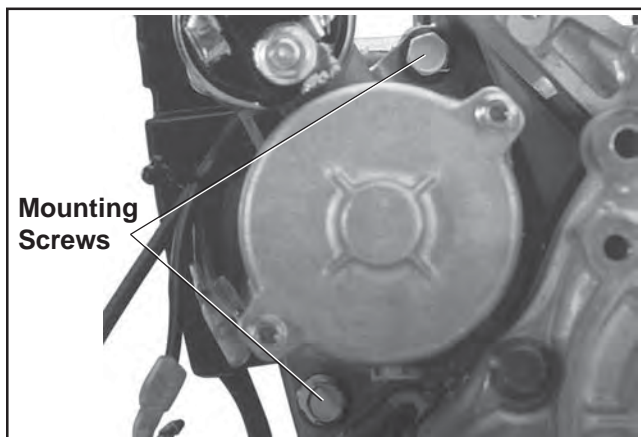

Figure 11-95. Solenoid Shift Starter Mounting.
1. Align and mount the electric starter motor to the crankcase. Install and torque the two hex flange screws to **30 N·m (265 in. lb.)**. See Figure 11-95.